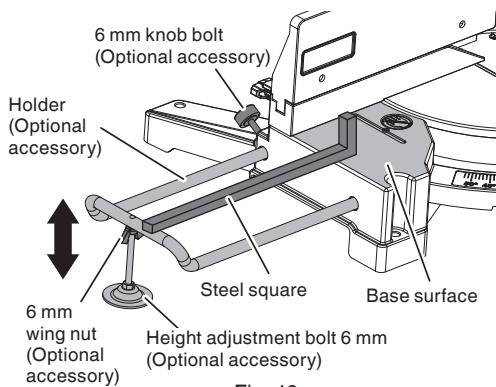

Fig. 10
- (1) As indicated in Fig. 10, use a steel square for aligning the upper edge of the holders with the base surface. Loosen the 6 mm knob bolt. Turn a height adjustment bolt 6 mm, and adjust the height of the holder.
- (2) After adjustment, firmly tighten the 6 mm wing nut and fasten the holder with the 6 mm knob bolt (optional accessory). If the length of height adjustment bolt 6 mm is insufficient, spread a thin plate beneath. Make sure the end of height adjustment bolt 6 mm does not protrude from the holder.